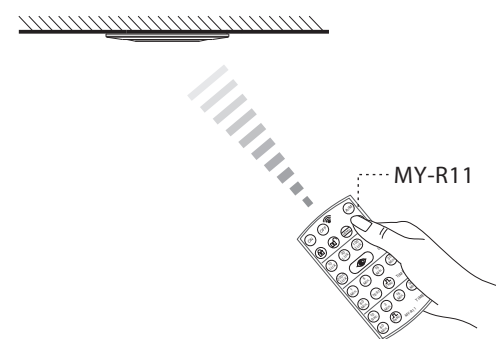

FIG.15
6.1 For easy and safe setting operations we highly recommend our optional IR remote control MY-R11. (see FIG.15).